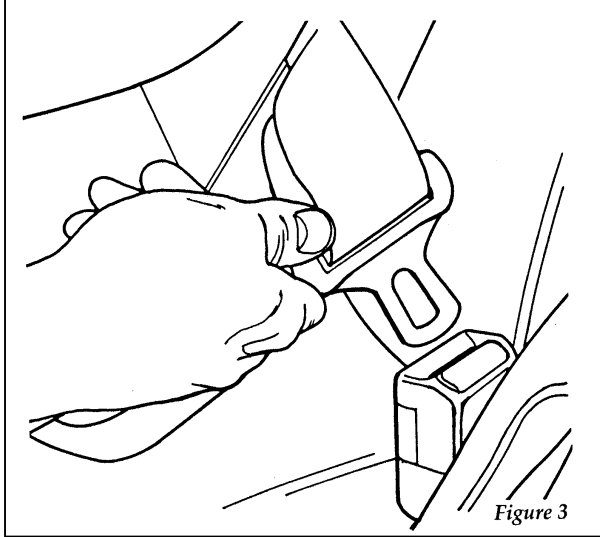

*Figure 2*
3. While holding the shoulder and lap belt portions together, route the tongue through the child seat according to the child seat manufacturer's instructions. See Figure 2. Be sure that the belt webbing is not twisted.